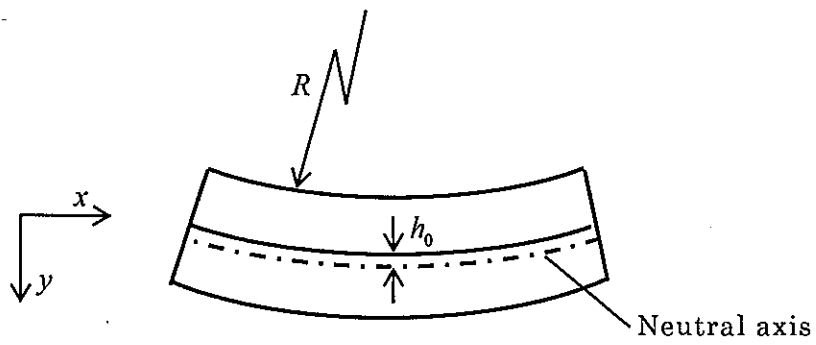

Figure 6-3
- (3) As shown in Figure 6-3, let h_0 be the distance from the interface between the components A and B to the neutral axis of the beam, where normal strain and normal stress in a section become zero. Let R denote the radius of curvature of the beam. Find equations that express the distributions of normal strain and normal stress in a cross-section of the beam along the y axis. In addition, find h_0 . Here, take the coordinates so that the interface is at $y=0$.
- (4) Derive the relational equation between the curvature of the beam, R , and the bending moment, M .